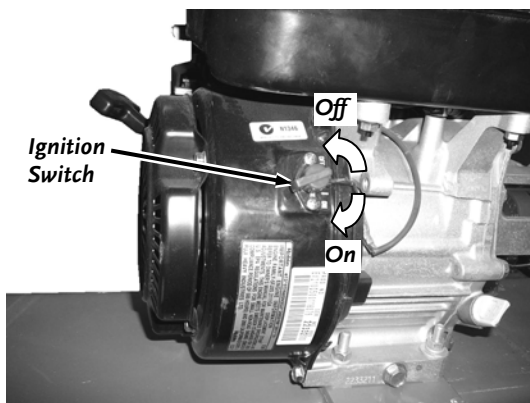
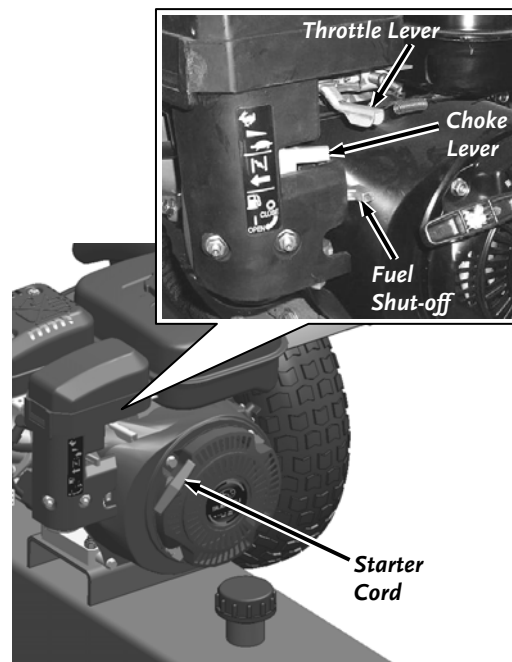

Figure 8
Figure 9
1. Turn the Ignition Switch to the “ON” position (**Figure 8**).
2. Make sure the Fuel Shut-off is in the “OPEN” position (**Figure 9**).
1. Slowly move the Throttle Control Lever to the idle position (**Figure 9**).
2. Turn the Ignition Switch to the "Off" position (**Figure 8**).
2. Move the Throttle Lever to the idle position (**Figure 9**) and turn the Ignition Switch of the Engine to the "OFF" position (**Figure 8**).